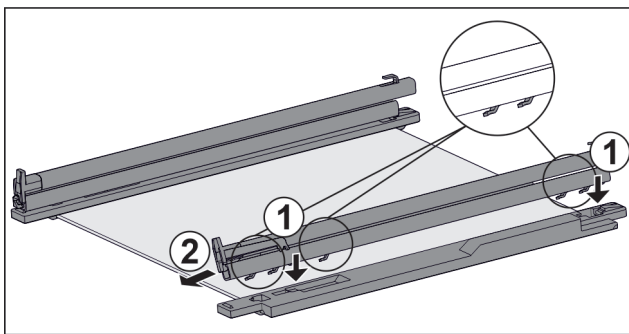

Fig. 154 Glass shelf with rails and retaining parts
- ▶ Place rail hooks onto the openings of the **left** retaining part. Fig. 154 (1)
- ▶ Push rail forwards. Fig. 154 (2)
- ▶ Place rail hooks onto the openings of the **right** retaining part. Fig. 154 (1)